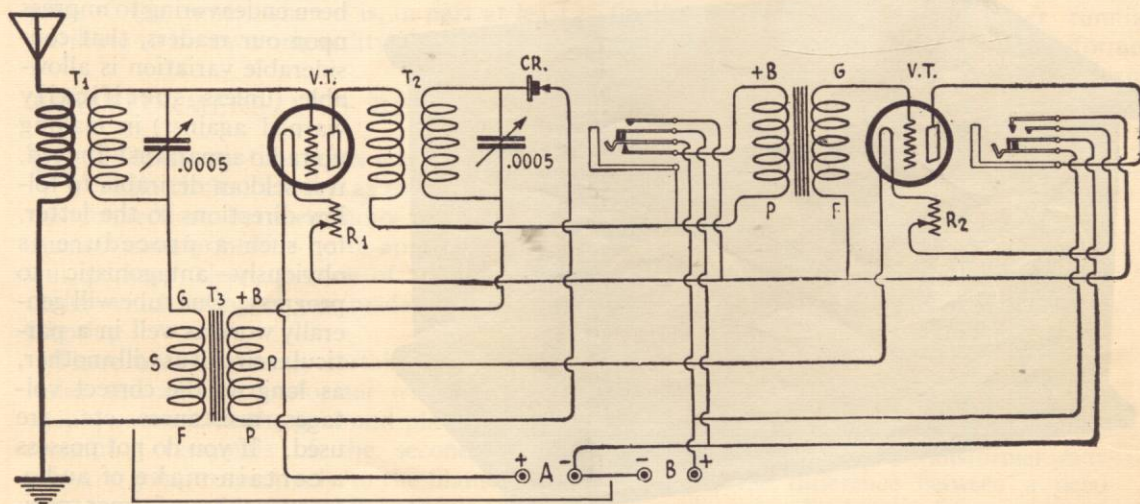

FIG. 1
**T**HE accompanying diagram Fig. 1 shows the connections for adding one stage of exterior, or straight audio-frequency amplification to the single-tube reflex set. Filament control jacks, of the most easily obtainable type, have been indicated, but readers not possessing jacks of this design may use any other type that will accomplish the same thing. The reader having any doubt concerning